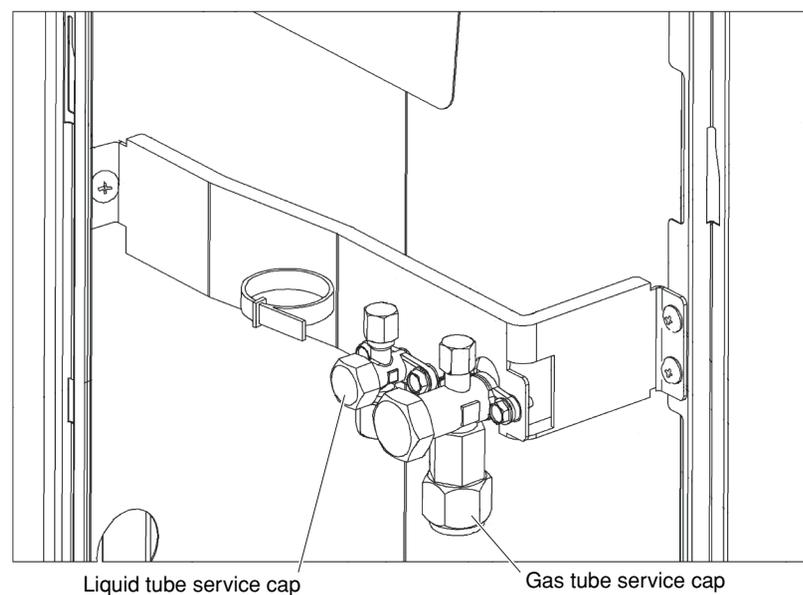

Fig. 7-2
- (5) Both the gas and liquid tube service valves are open. If not, open them now. (Fig. 7-2)
- (6) Request that the customer be present for the trial run.